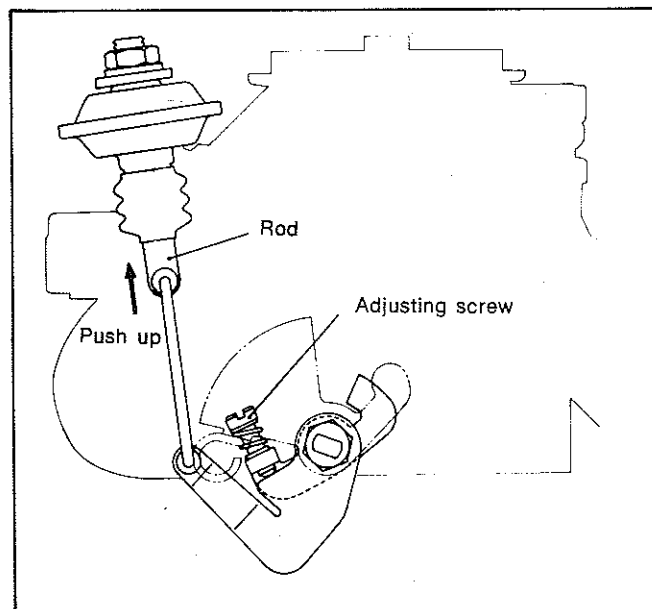

Fig. 15—Dash pot adjustment
(1) With the engine running, push up on the lower end of the dash pot rod until it bottoms. The engine speed should be 2000 ± 100 r.p.m. If not, reset the speed using the adjusting screw (Fig. 15).
(2) Release the rod and the engine speed should drop to 1000 r.p.m. within 2 to 5 seconds. Replace a dashpot that fails to meet this specification.